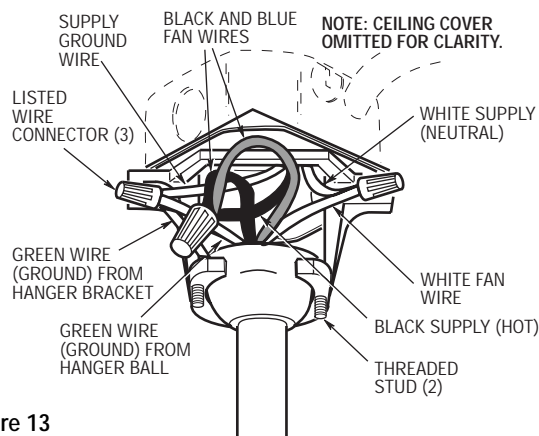

Figure 13
1. Connect the green grounding lead from the hanger ball and the green grounding lead from the hanger bracket to the grounding conductor of supply (this may be a bare wire or wire with green colored insulation). Securely connect wires with wire connectors supplied. (Figure 13.)
2. Securely connect the fan motor white wire to the supply white (neutral) wire using wire connector supplied (Figure 13). Securely connect the fan motor black wire and blue wire to the supply black (hot) wire using wire connector supplied (Figure 13). After connections have been made, turn leads upward and carefully push leads into the outlet box, with the white and green leads on one side of the outlet box and the black and blue leads on the other side of the outlet box.
3. Screw the two threaded studs (supplied) into the tapped holes in the hanger bracket (Figure 13).